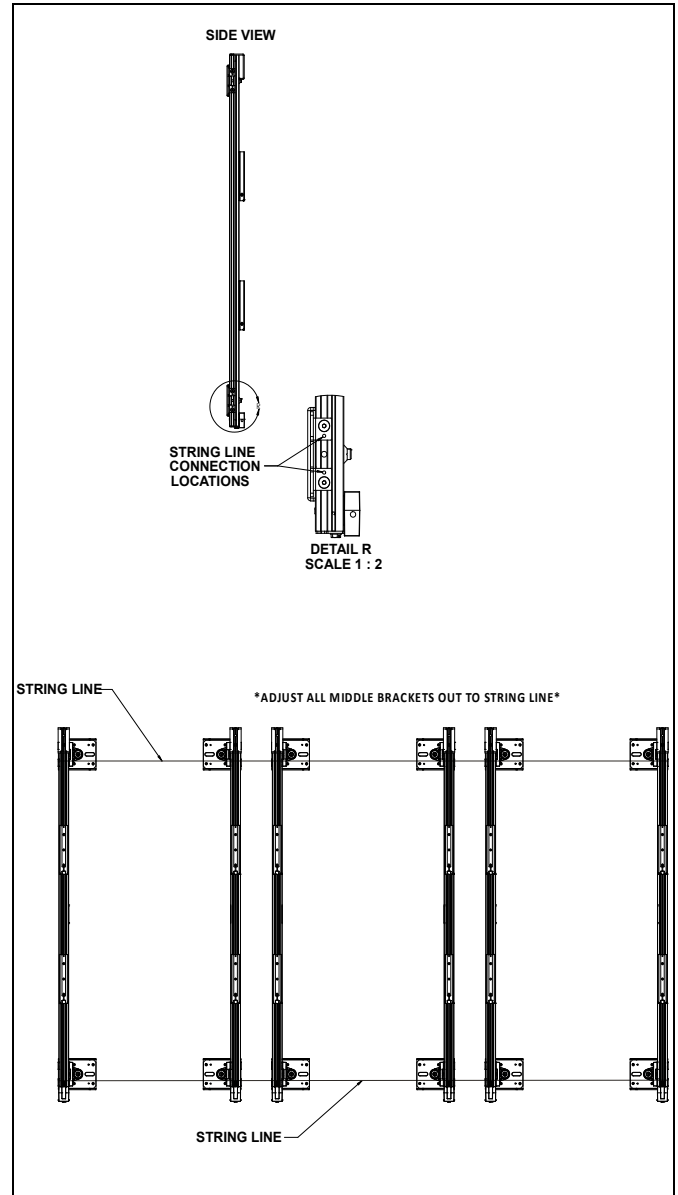

Figure 15
2. After the outer uprights are plumb, use a #6-32 self-tapping screw (CC) to connect a string line from one outer upright to the other. (See Figure 15)
3. Adjust inner uprights until they all touch the string. (See Figure 15)